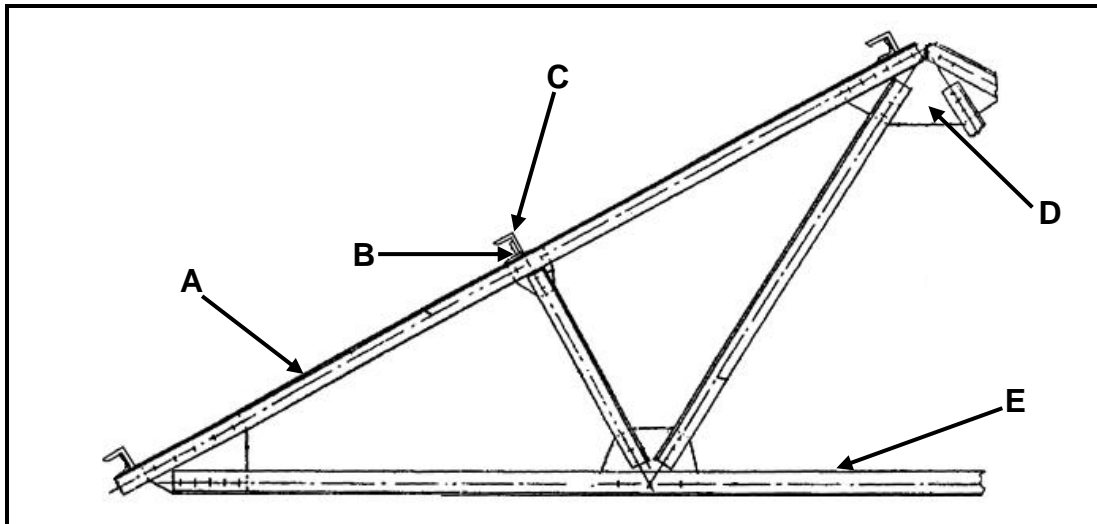

FIGURE 5.3
- 5.3 FIGURE 5.3 shows a roof truss.